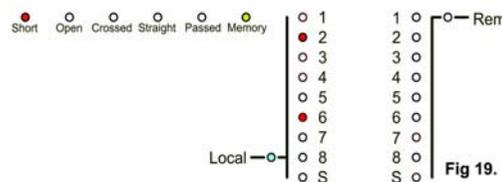

Fig 19.
- a) A short was found, at the local connector, where no connection existed before (Fig19).